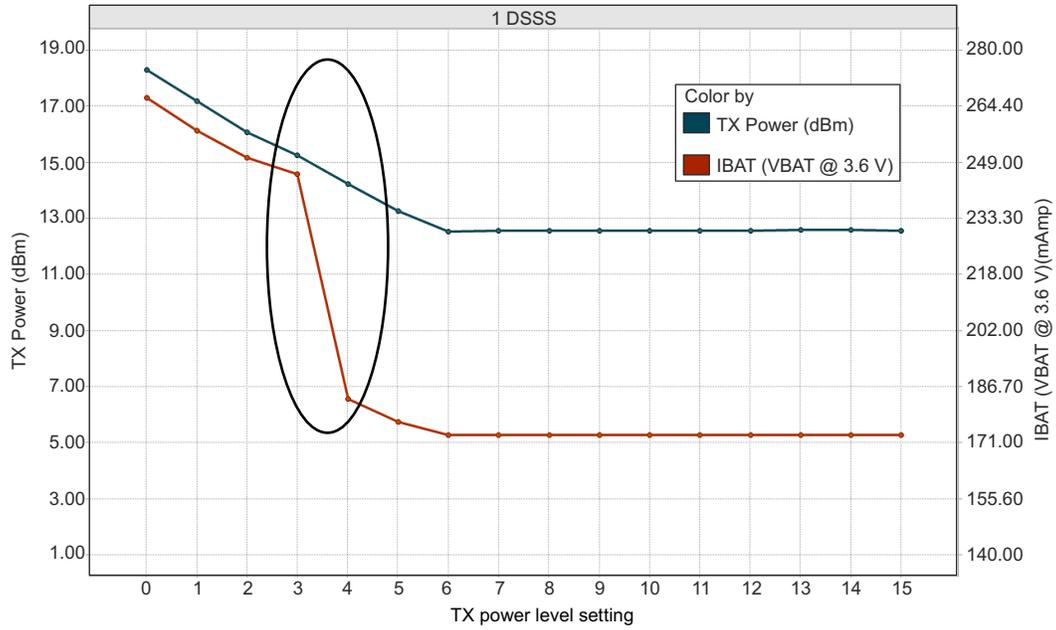

Figure 8-1. TX Power and IBAT vs TX Power Level Settings (1 DSSS)
- (1) TX power level = 0 implies maximum power (see Figure 8-1, Figure 8-2, and Figure 8-3). TX power level = 4 implies output power backed off approximately 4 dB.
- (2) The CC3130 system is a constant power-source system. The active current numbers scale based on the  $V_{\text{BAT}}$  voltage supplied.
- (3) DTIM = 1
- (4) The complete calibration can take up to 17 mJ of energy from the battery over a time of 24 ms. In default mode, calibration is performed sparingly, and typically occurs when re-enabling the NWP and when the temperature has changed by more than  $20^\circ\text{C}$ . There are two additional calibration modes that may be used to reduced or completely eliminate the calibration event. For further details, see CC3x20, CC3x35 SimpleLink™ Wi-Fi® and Internet of Things Network Processor Programmer's Guide.
- (5) The RX current is measured with a 1-Mbps throughput rate.
Figure 8-1, Figure 8-2, and Figure 8-3 show TX power and IBAT versus TX power level settings for the CC3130 device at modulations of 1 DSSS, 6 OFDM, and 54 OFDM, respectively.
In Figure 8-1, the area enclosed in the circle represents a significant reduction in current during transition from TX power level 3 to level 4. In the case of lower range requirements (14-dBm output power), TI recommends using TX power level 4 to reduce the current.